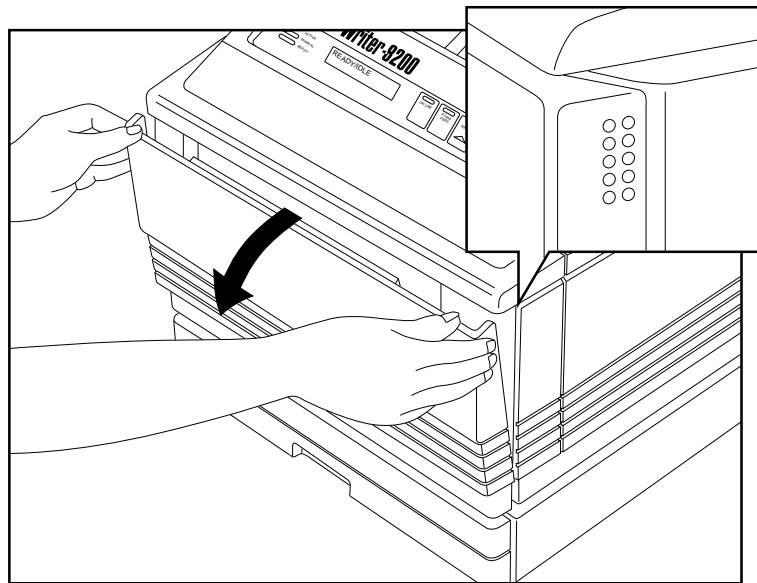

Fig. 2.14 Open the Fold Down Tray
1. Open the fold down tray by grasping the top corners and pulling out and down (fig. 2.14).